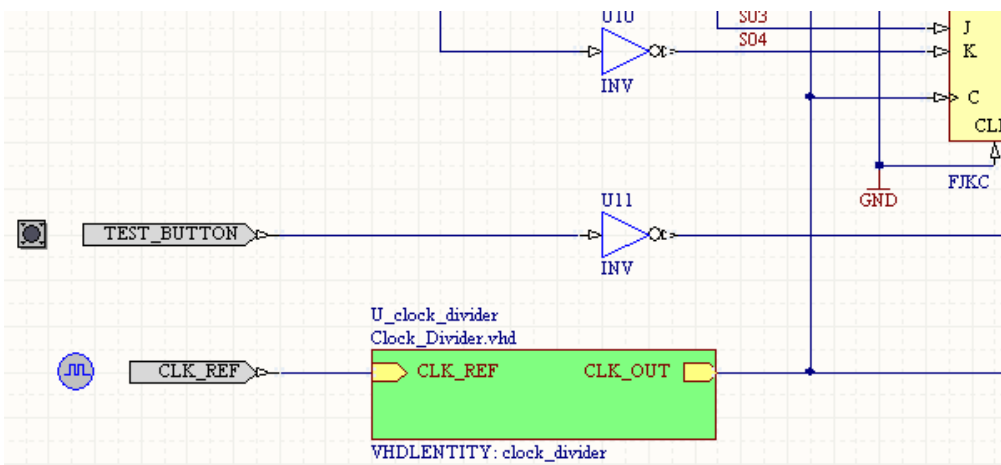

Figure 28. Simple_Counter schematic with sheet symbol for Clock_Divider.vhd sub-file placed and wired.
- Place and wire the new sheet symbol into the circuit as shown in Figure 28. Notice that the **Designator** and **Filename** have been automatically set to `U_clock_divider` and `Clock_Divider.vhd` respectively. The `VHDLENTITY` parameter has also been added, with value = `clock_divider` (the name of the entity in our VHDL sub-file).